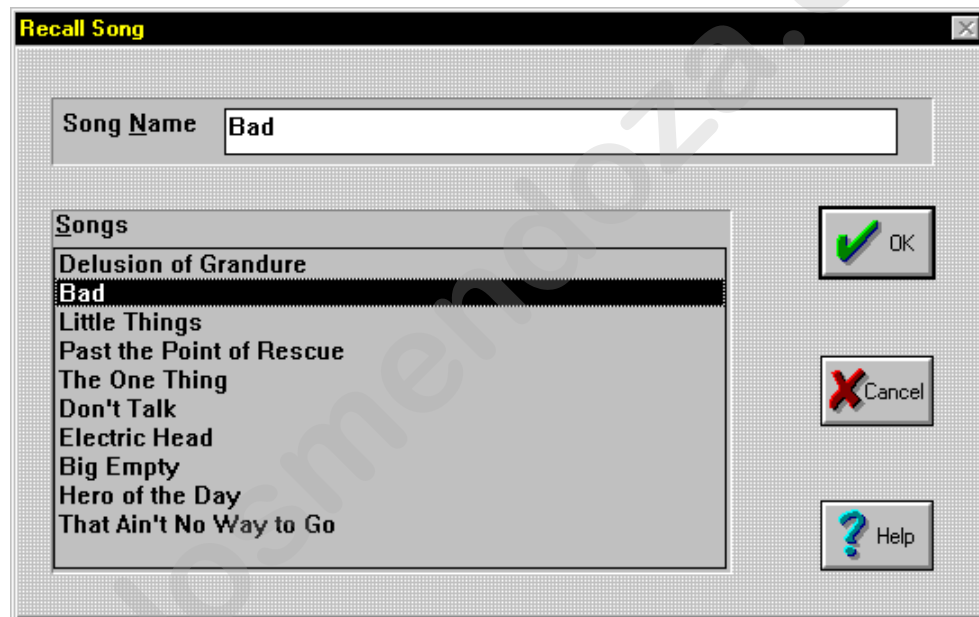

Figure 7.21. Recall Song Dialogue Box
2. Press the <RECALL> key in the MEMORY group (Figure 7.15). This will bring up the **Recall Song** dialogue box. Refer to Figure 7.21. Alternately, select **Recall** from the **Memory** drop-down menu.